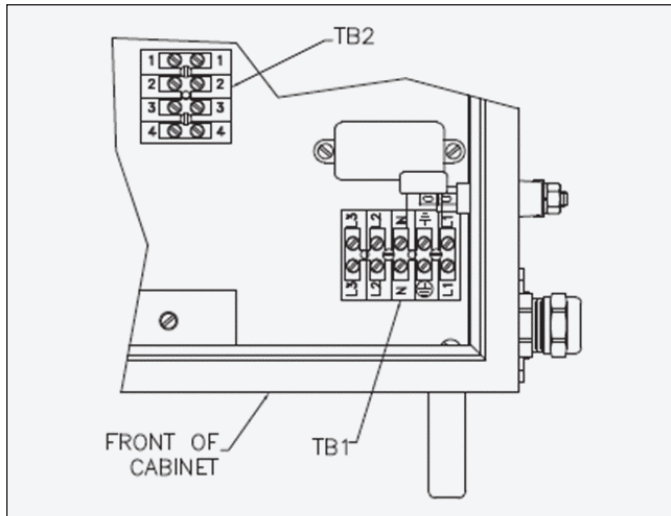
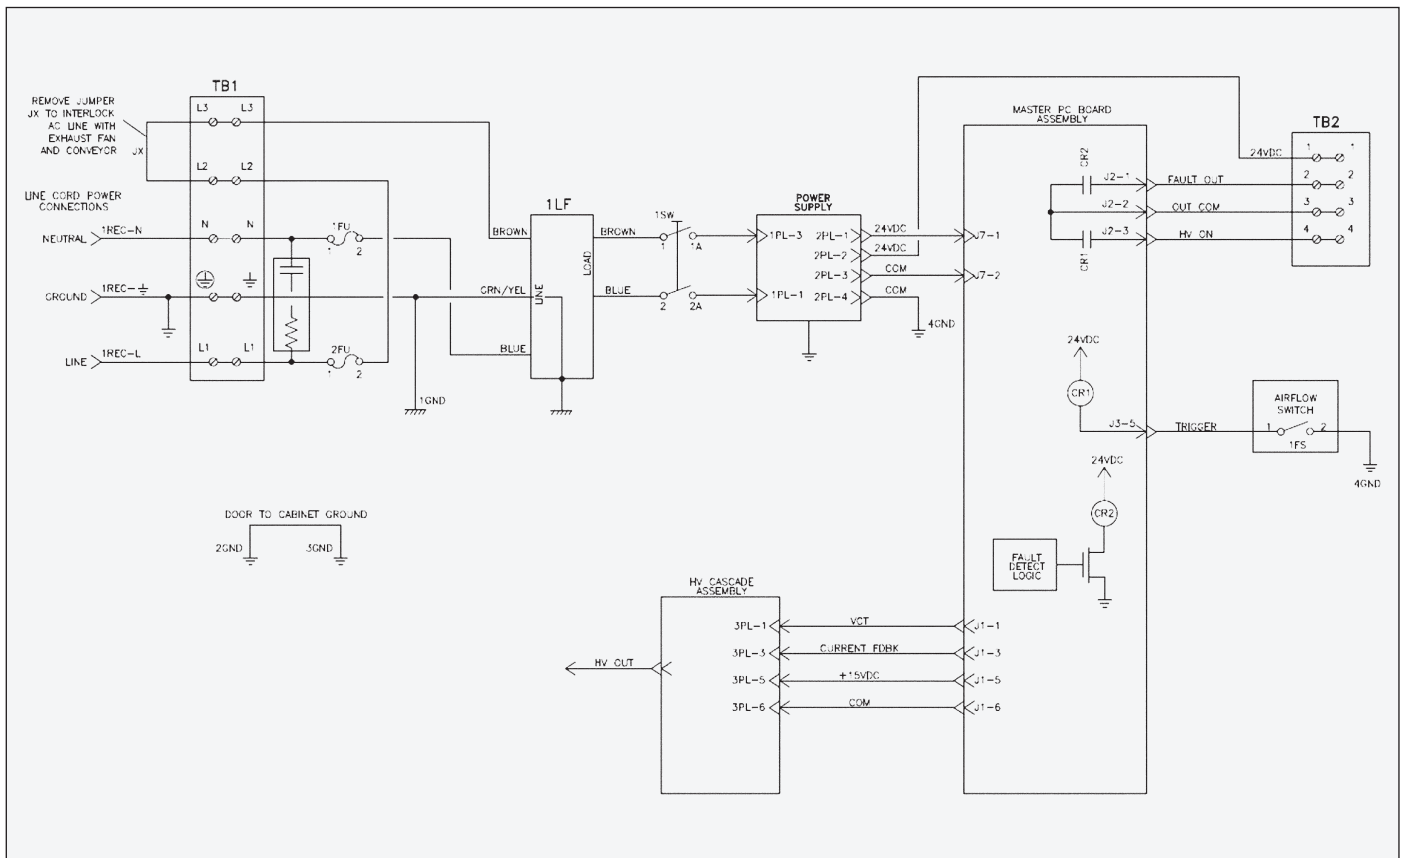

Figure 9: Location of TB1 & TB2 in Controller
Figure 12: Controller Schematic
1. **Ensure the AC line cord is unplugged** and remove the AC inlet receptacle wiring from TB1-N, TB1-L1 and TB1-EARTH GROUND (See Figures 9 and 10).
4. Using a shielded cable for the interlock wiring (supplied by user), route through the interlock connector on the side of the 9060 Controller and terminate TB1-L2 and TB1-L3 as shown in Figure 12. The shielded cable must have a minimum rating of 300V and 105°C and its conductors should be 0.8mm² (18 AWG) minimum. Secure the cable to the interlock connector as described in "I/O Connections" in the "Installation" section of this manual so that the shield of the cable is connected to the chassis of the enclosure.
A set of relay contacts for high voltage (CR1) and fault (CR2) conditions is provided at TB2-4 and TB2-2 (See Figure 9). One end of these relay contacts are connected together and also connected to a source input terminal TB2-3 (See Figure 12). When a source voltage is present at TB2-3 and either the high voltage is on or a fault condition occurs, the